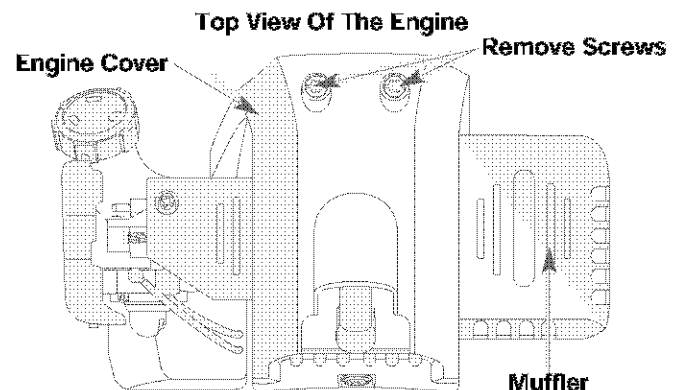

Fig. 52
2. Remove the two (2) screws on top of the engine cover with a Flat-head or T-20 Torx screwdriver (Fig. 52).
- Remove the engine cover (Fig. 52).